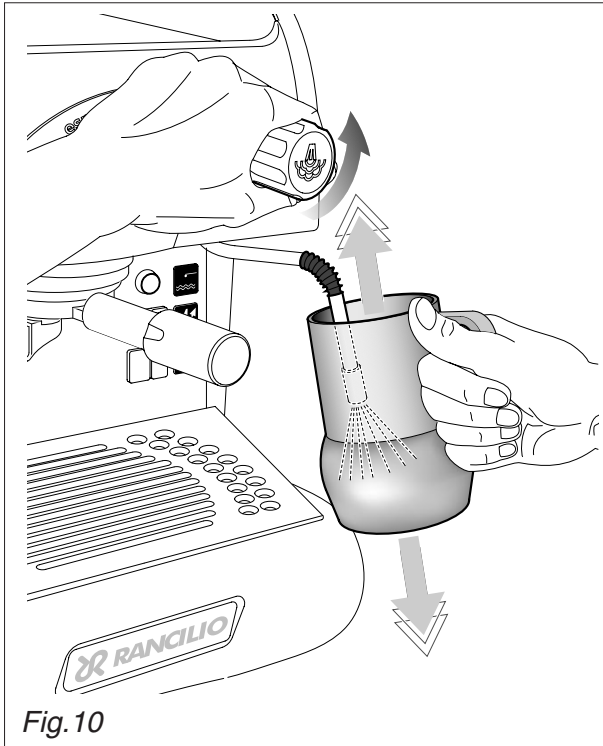

Fig.10
8.2. Preparing cappuccino (Fig.10)